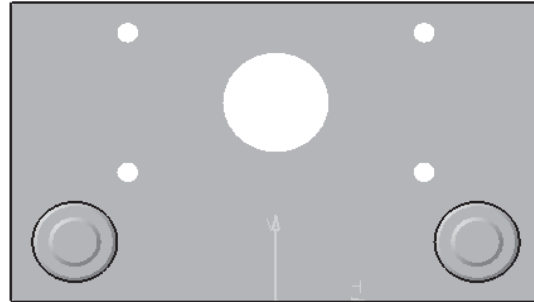

Figure 11-90 Sketch of the Pad feature for creating the Top Plate
- e. Create the Top Plate, refer to Figure 11-90.
3. Extract four side edges of the Bottom Plate and the outer circular edge of the Guide Bush using the **Project 3D Elements** tool, as shown in Figure 11-90.